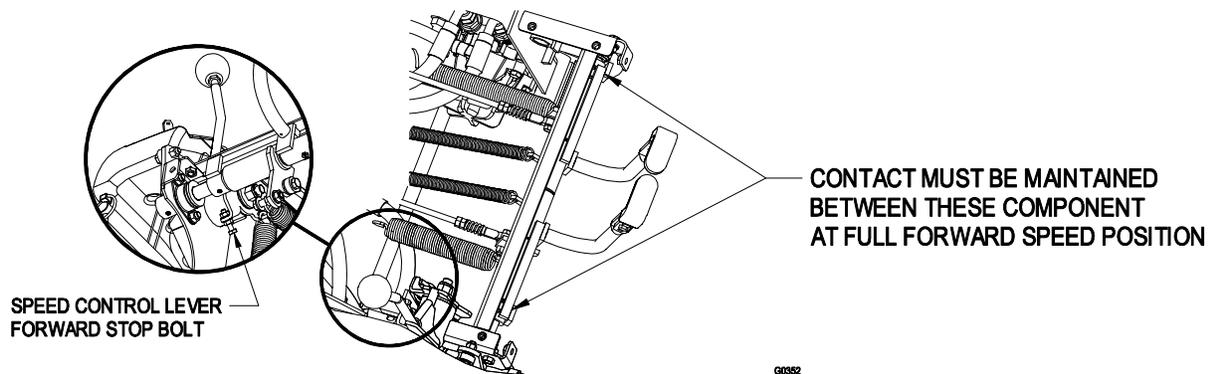

**FIGURE 16
- Adjust the right pump linkage by using a wrench to turn the double nuts on the assembly. See Figure 16.